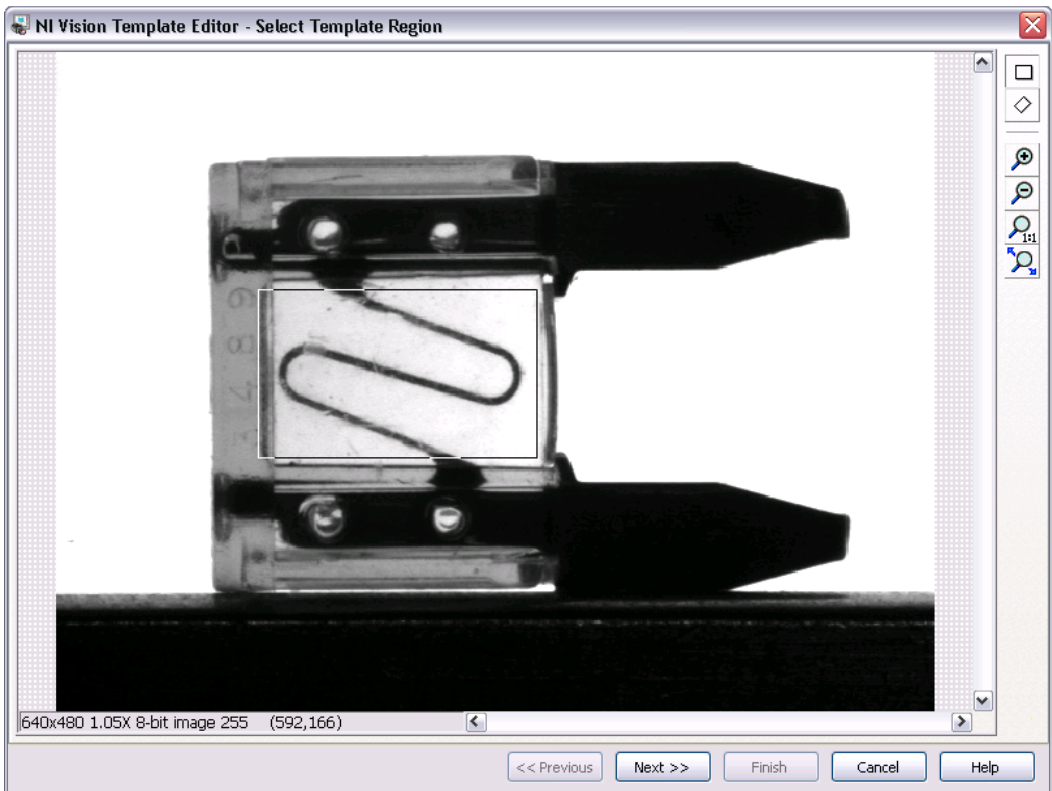

Figure 4-3. Creating a Template Pattern
3. Draw an ROI around the conductor, as shown in Figure 4-3. This region becomes the pattern matching template.